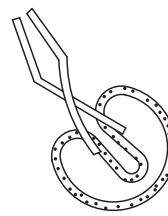

Fig. 3
- (5) When using a jig for fitting swivel seals, use a jig with round edges to avoid damaging the seals. (Fig. 3)